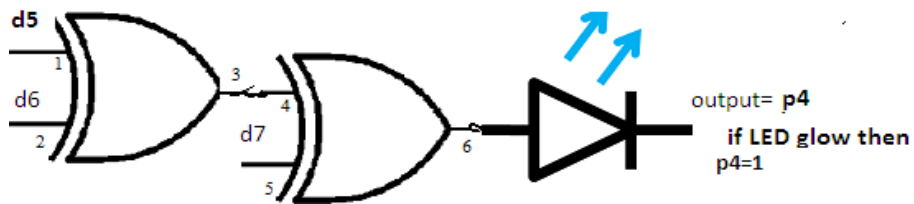

Figure 5.3: Circuit diagram for generation of P_4
- ii. Make connection as shown in figure 5.3
- iv. Check output of figure 5.3 Note the value of P_4 in table 5.2.